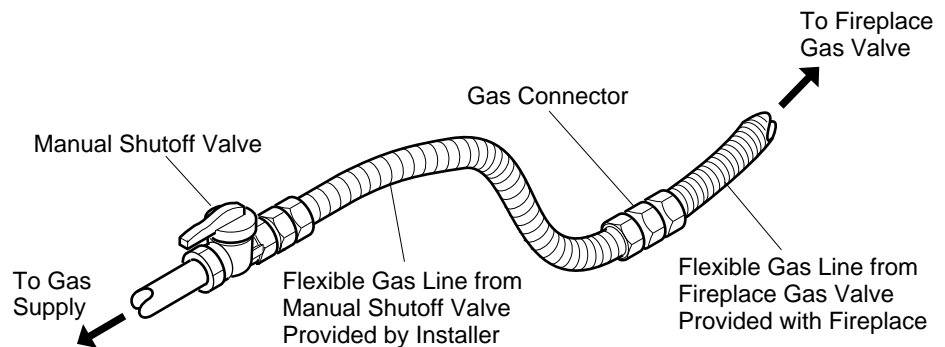

Figure 19 - Attaching Flexible Gas Lines Together
NOTICE: Most building codes do not permit concealed gas connections. A flexible gas line is provided to allow accessibility from the fireplace (see Figure 19). The flexible gas supply line connection to the manual shutoff valve should be accessible.
4. Apply pipe joint sealant lightly to male threads of gas connector attached to flexible gas line (see Figure 19). Connect flexible gas line to flexible gas line attached to gas valve of fireplace (see Figure 19).
4. Check all joints from manual shutoff valve to thermostat gas valve (see Figure 19). Apply mixture of liquid soap and water to gas joints. Bubbles forming show a leak.